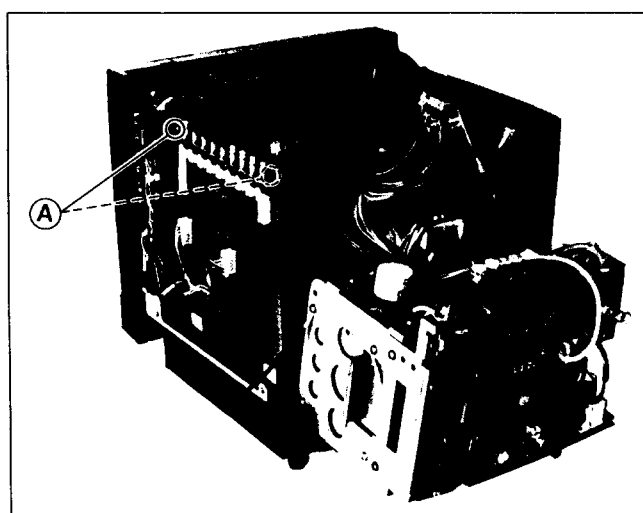

Fig. 7-5
The system switch PB can be demounted by removing two screws (A) shown in Fig. 7-5.